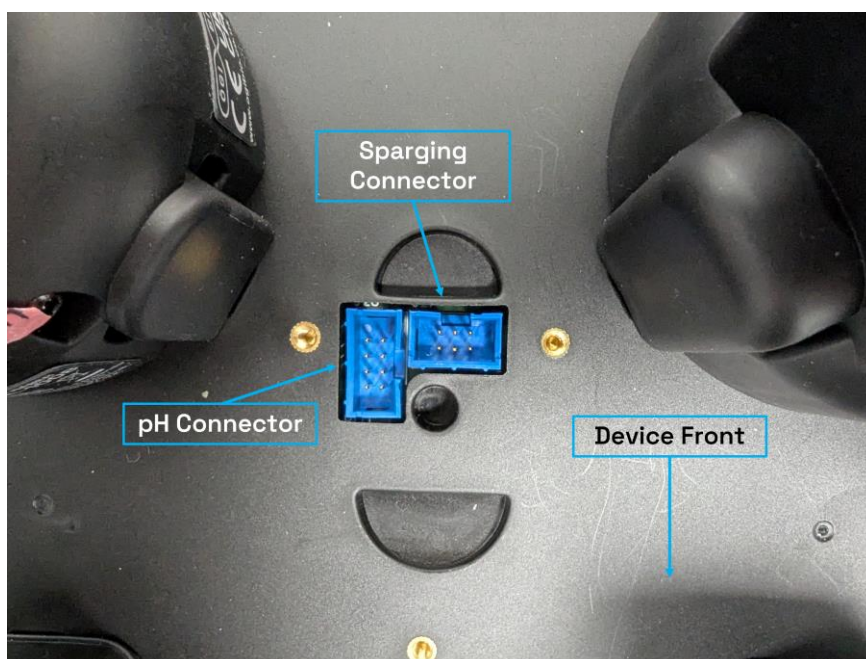

Figure 16: Top Connectors and screw holes
3. Find the connector on the underside of the pH module, and connect to the 8-pin connector as shown in Figure 16: